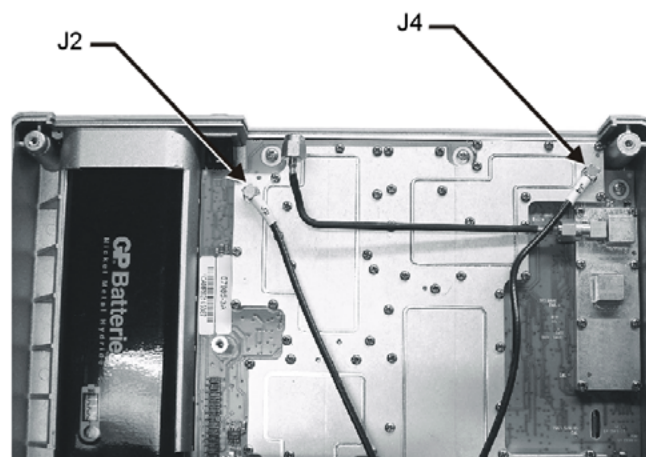

Figure 4-8. Spectrum Analyzer PCB
5. Carefully reach between the Main PCB and the SPA PCB and disconnect the cables from J2 and J4 on the SPA PCB (Figure 4-8).